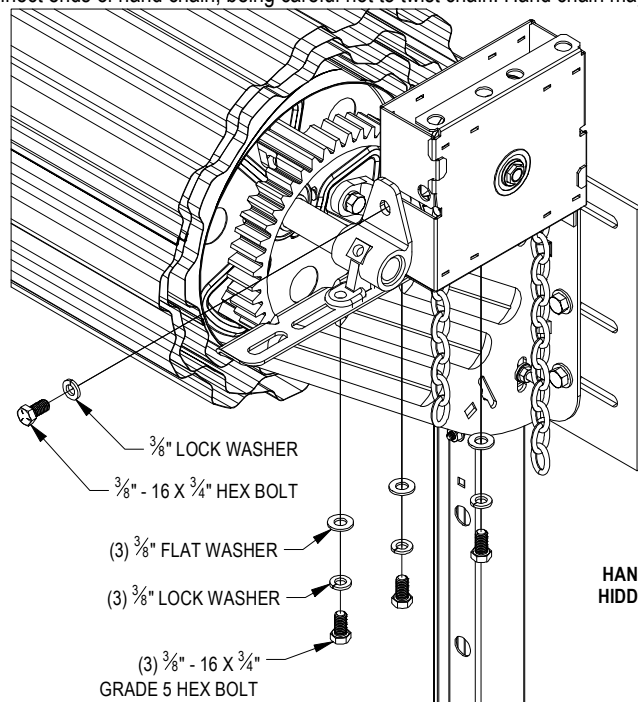

FIGURE 19:
- Position chain hoist assembly on door bracket next to cast axle support and attach to door bracket using two (2) each $\frac{3}{8}$ " - 16 x $\frac{3}{4}$ " Grade 5 Hex Bolts, $\frac{3}{8}$ " Lock Washers, and $\frac{3}{8}$ " Flat Washers. The spur gear on the hoist will engage with the external teeth of the cast ring gear on the end of the drum.
- Connect cast axle support bracket to side of chain hoist using $\frac{3}{8}$ " - 16 x $\frac{3}{4}$ " Hex Bolt and $\frac{3}{8}$ " Lock Washer. **See Figure 19.**